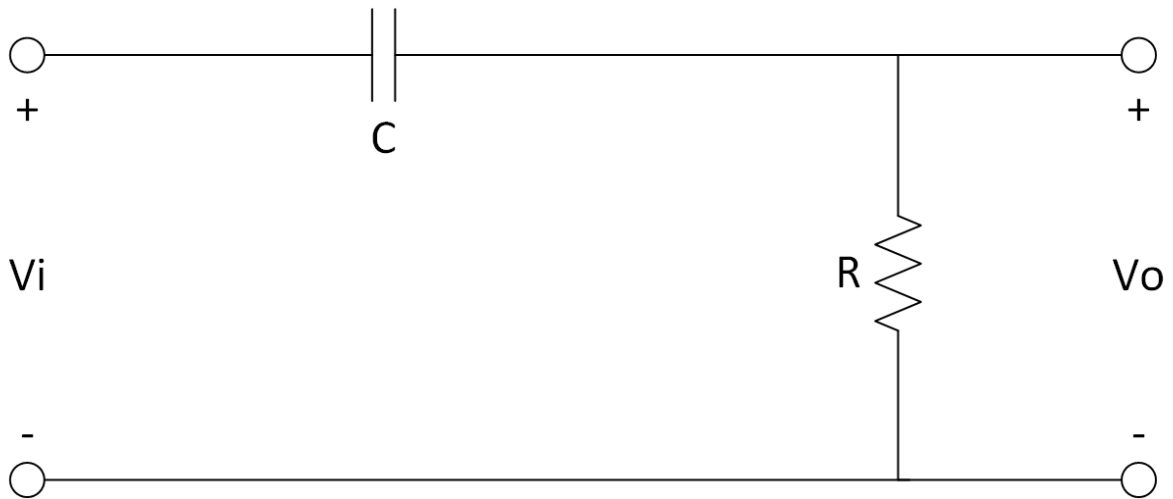

Figure 7.2
2. For Fig. 7.2, do your theoretical calculations and roughly sketch the frequency response ($|H(j\omega)|$) and phase ($\angle(j\omega)$). Compare your theoretical and simulated results, and comment on differences.
2. Build the circuit given in Fig.7.2. ($R=47k\Omega$, $C=10nF$) Set the peak-to-peak voltage of the input as $V_{p-p}=1V$ and measure V_o and phase at frequencies given in Table 2. Find the cut-off frequency for the filter. Fill the table and sketch the frequency response (in dB) and phase.